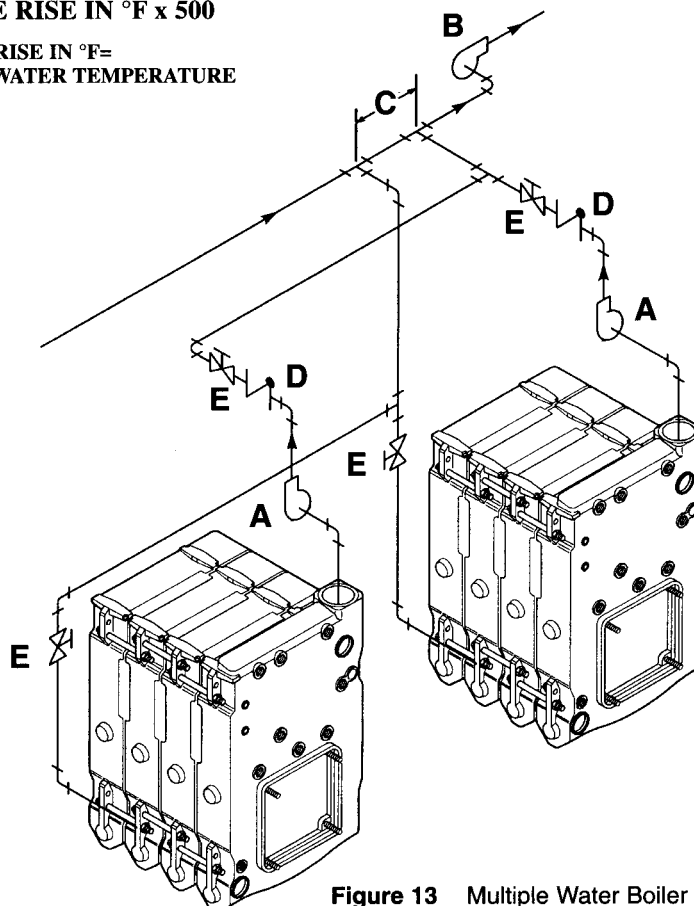

Figure 13 Multiple Water Boiler Piping
3. Piping for multiple boilers (see Figure 13):